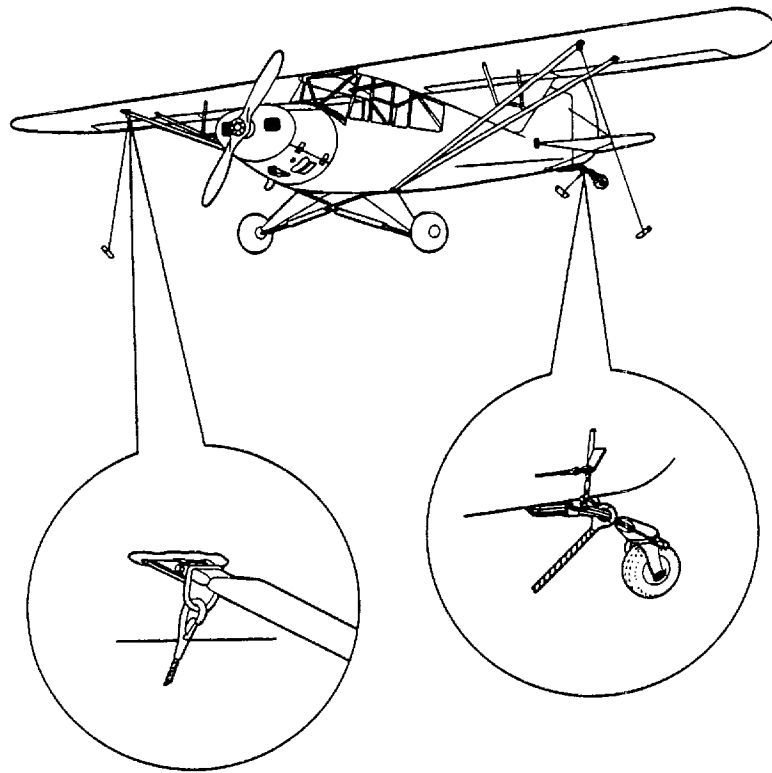

Figure 1-8. Tying Down the Airplane
a. Attach the mooring cable or rope, whichever is available, to the tail wheel spring assembly (see figure 1-8) and the tie-down ring of the ground mooring anchor. The ground mooring anchor will be located as closely as possible to the tailwheel assembly. Make certain that as little slack or backlash as possible exists in the cable.
b. Attach a separate mooring cable or rope to the tie-down ring located at each lift strut assembly. (See figure 1-8.) Connect the cable or rope to the ground mooring anchor located approximately 3 feet toward the wing tip.